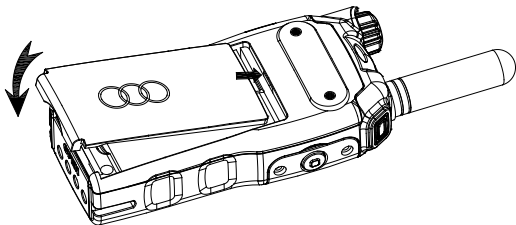

Figure 5
3. Fit the one extension at the top of the battery cover into the slot at the top of the radio's body, press the bottom of the battery cover towards the radio until a click is heard, and then the battery cover is securely attached to the radio, as shown in Figure 5.